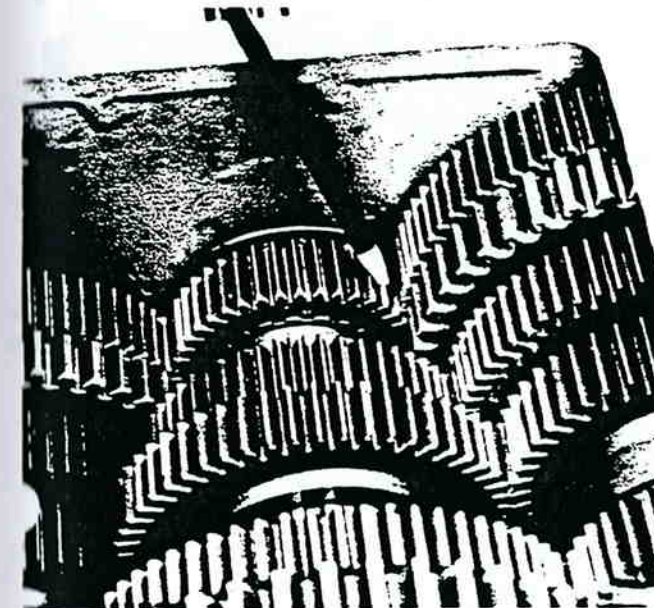

Figure 13-142. Engaging Timing Teeth.
1. With the right countershaft parallel with mainshaft, mesh the marked tooth of right countershaft drive gear with the remaining two marked timing teeth of main drive gear (figure 13-142).